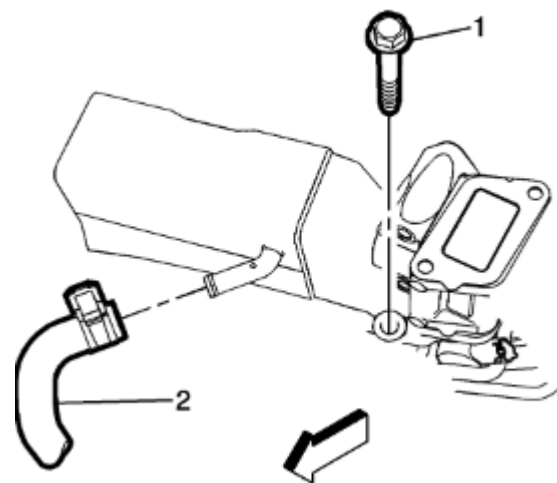

Fig. 138: EGR manifold cooling return hose and mounting bolt installation
- c. Install the EGR manifold cooling return hose (item 2 in figure 138) and the mounting bolt (item 1 in figure 138). Torque the mounting bolt to 18 ft-lb.